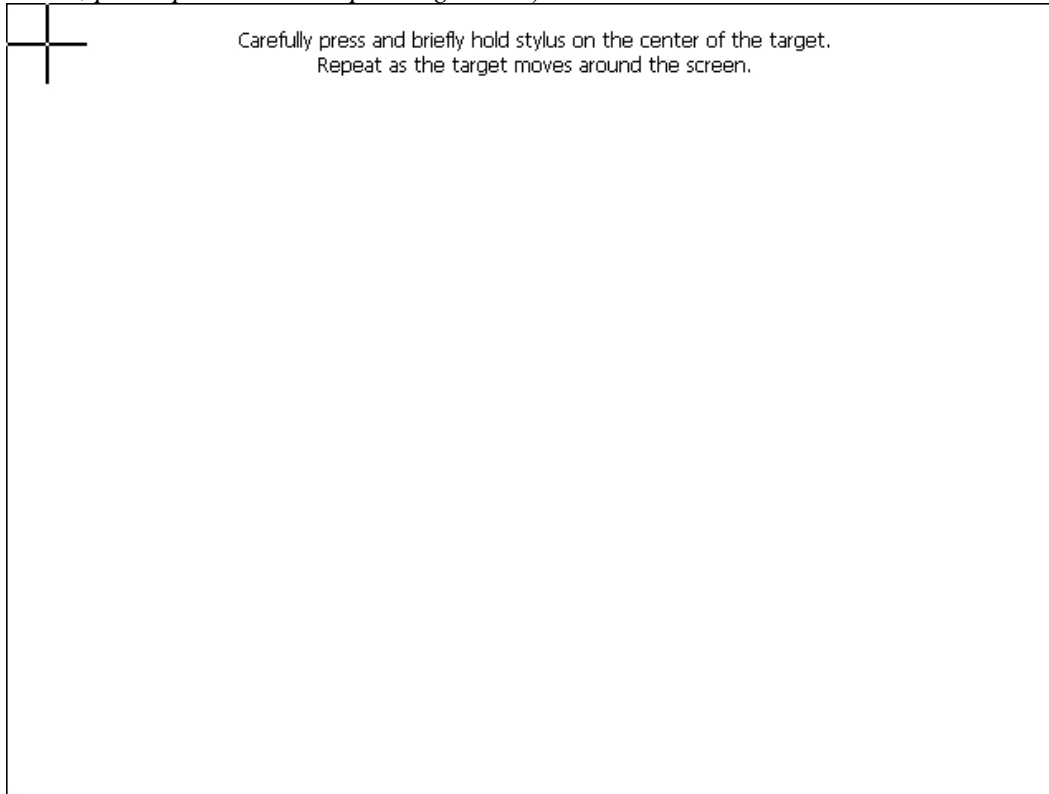

Fig 18
30. When the calibration screen (*Fig 18*) appears, follow the on-screen instructions (*use a pencil eraser, pen cap or other dull pointing device*).
48. If the calibration screen (Fig 18) appears, follow the on-screen instructions (*use a pencil eraser, pen cap or other dull pointing device*).